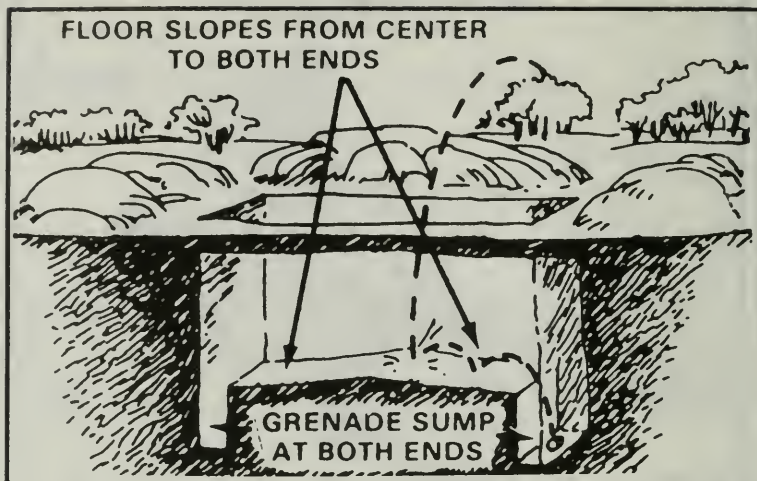

Figure 224. Two trench-shaped grenade sumps.
(2) Shape the hole to fit the natural cover available. Depending on the size and shape of the frontal cover that you are using, you may not be able to dig a rectangular hole.
(3) Ideally, a natural parapet, such as a tree, mound, rock, or stump that will blend with the surrounding terrain, will be available for frontal cover. Otherwise, you must build your own parapet using dirt from the hole. At least 18 inches of earth should be between you and the enemy. Frontal cover is important so you can shoot without exposing your head to enemy fire.
d. Dig two trench-shaped grenade sumps. One should be at each end of the position. Dig the trenches as wide as an entrenching tool blade, as deep as the entrenching tool, and as long as the position is wide. The floor should slope toward the sumps. The slope should be steep enough so that a grenade thrown into the position will roll into one of the sumps (Figure 224).